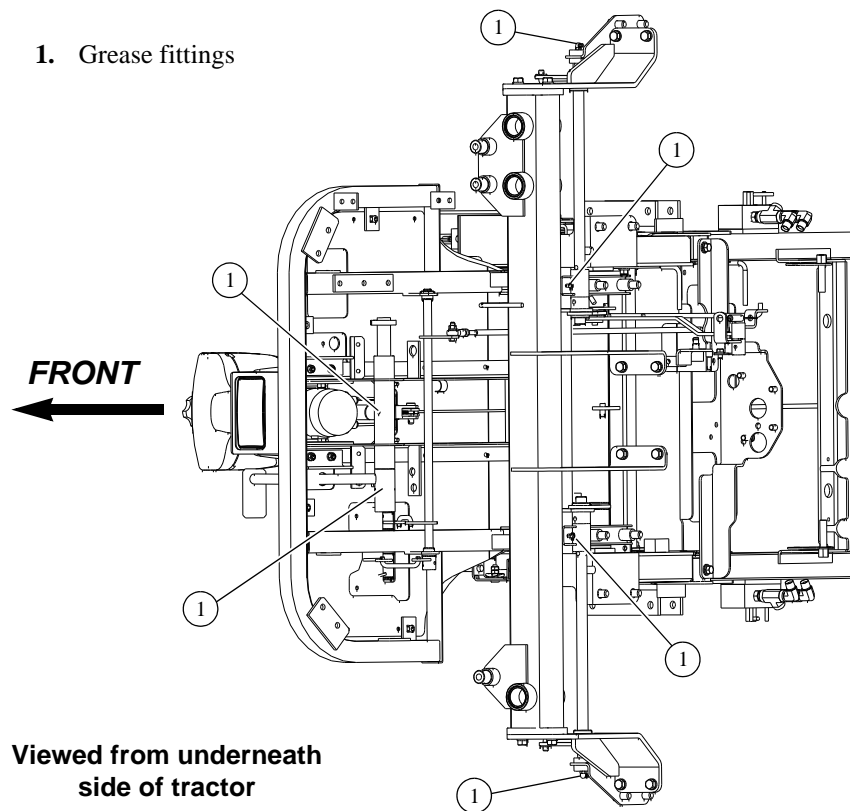

Figure 4-65
**Refer to Figure 4-65, Figure 4-66, Figure 4-67, Figure 4-68,